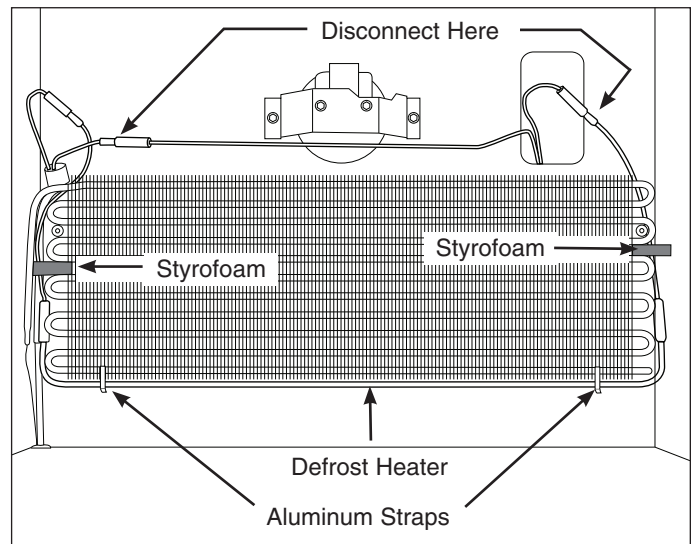

Figure 6-24. Defrost Heater Removal
5. Disconnect the defrost heater wire leads from the wire harness. (See Figure 6-24)